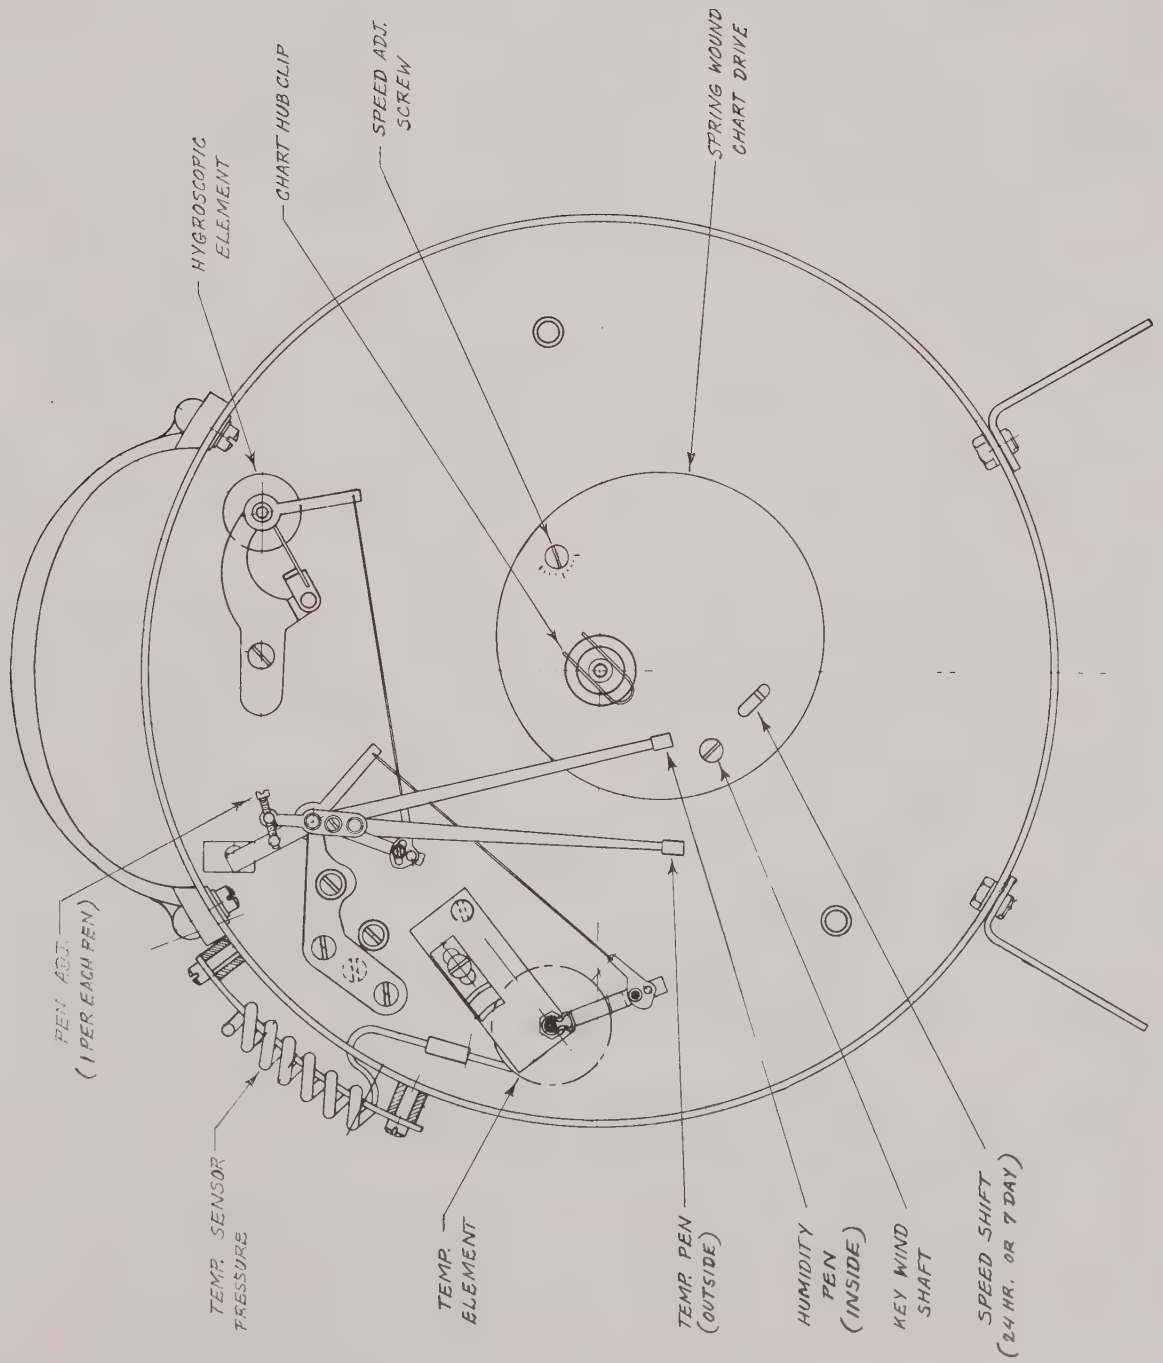

FIGURE 5 MODEL 56912-65A W/ CHART PLATE REMOVED
- (5) Grasp chart plate firmly and twist in a clockwise direction until all three support studs become disengaged.
- (6) Lift pen arms slightly and carefully maneuver chart plate out of case. The internal mechanisms are now accessible as shown in figures 5 and 6.
If it is determined after some use that the chart speed is operating slightly above or below normal, the mechanical screw adj. on the chart drive assembly (figure 5) can be turned slightly in either direction for a correction. Adjustments should be made in small increments and checked against a precision timepiece or electronic counter. The checks are made by measuring the lapsed time between two close chart coordinates.
- (5) When two consecutive readings of the wet bulb are in agreement, this becomes the final reading. Record the readings of the dry and wet bulbs and compute the relative humidity using tables provided for the psychrometer.
- (6) If the reading of the temperature pen exceeds the dry bulb reading of the psychrometer by $\pm 0.5\%$, an adjustment will be required. Referring to either figure 5 or 6, locate the pen adj.
- (7) Using a screwdriver, turn the pen adj. of the temperature pen slightly in either direction until a proper reading is obtained.